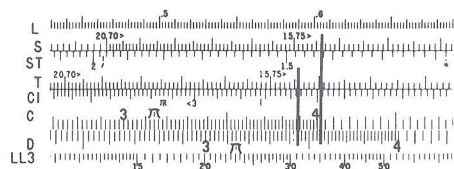

Figure 6c
1. Assume that it is desired to find $X = Y \cos 14.4^\circ$, for $Y = 3.56$. Set 14.4° on S to 3.56 on C. Without moving the slide read 3.445 on C at 14.4° on T. This has solved for the desired value. Notice that this is the same method used in solving for the hypotenuse of a right angle triangle. The setting for this example is shown in Fig. 6c.
In Fig. 6c, the setting shows 3.56 being multiplied by the cos of 14.4° and by the sine of 75.6° .